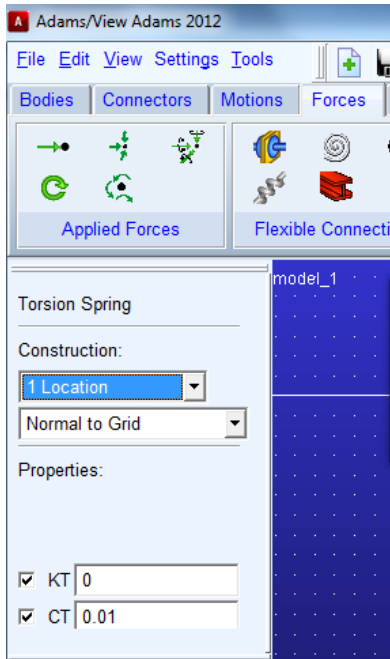

Figure 1.16
- From the “Forces”-menu and “Flexible Connector” create “Rotational Spring-Damper” (first row, second column).  See Figure 1.16.